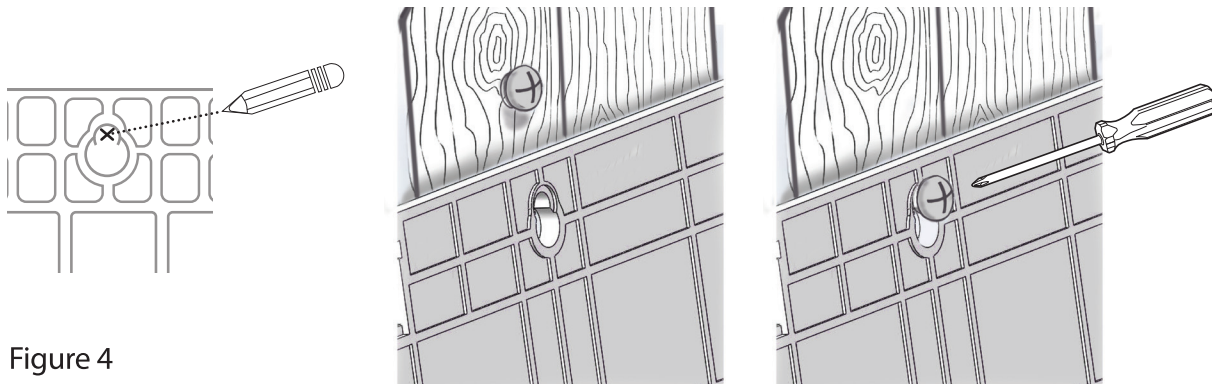

Figure 4
- **If mounting directly onto a wall/surface:** Place the Organizer Body against the wall/surface it will be mounted to and make a mark at the top of the keyhole shaped opening. Set your screws using a Philips Head Screwdriver or Power Drill at these marked locations, leaving each screw extended about a half inch from the wall/surface. Set the Organizer so that it rests on each screw at the top of the keyhole shaped opening. Once this is done, you may finish setting your screws, drawing the Organizer tight against the wall/surface. (see figure 4)